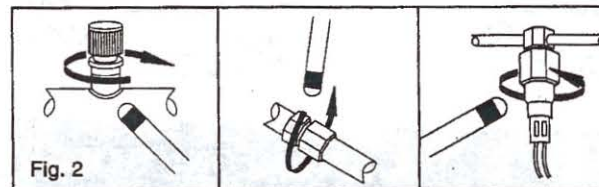

Fig. 2
5. At each area checked, the probe should be moved around the location, at a rate no more than 25 to 50 mm/second (1-2 in/second), and no more than 5 mm (1/4 in) from the surface, completely around the position. Slower and closer movement of the probe greatly improves the likelihood of finding a leak (see Fig. 2, below). Any increase in beep rate is indicative of a leak.